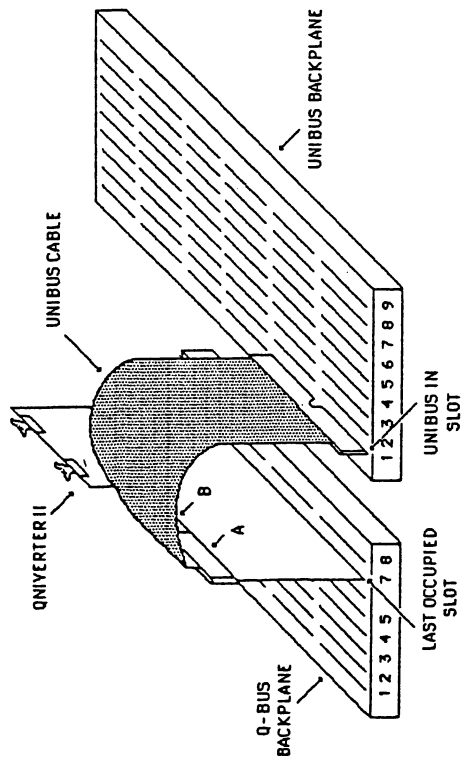

Figure 2-7: Installing the UNIBUS Cable in a Q-Bus System
1. Install a UNIBUS cable into the top connectors on the QNIVERTER II board as shown in Figure 2-7.
3. Place the opposite end of the UNIBUS cable into the UNIBUS-IN slot of a DD11 type backplane 9connectors A and B) or into a UNIBUS-IN slot of an externally mounted controller. See Figure 2-7.